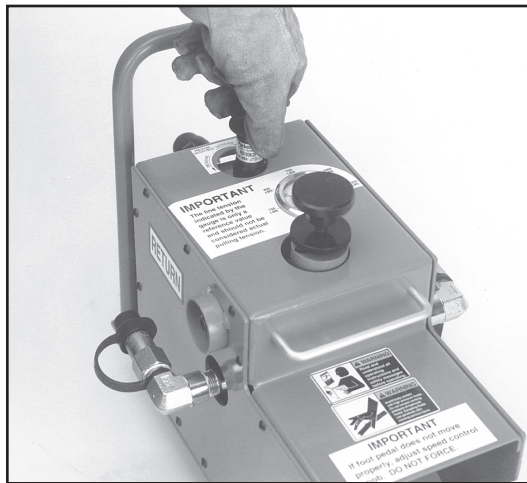

Figure 22. Pressure Relief Valve
4. Release the lock nut on the relief valve (figure 22). Turn the relief valve stem counterclockwise to adjust the valve down to zero pressure.
6. Release pressure to the puller. Turn the relief valve stem clockwise to increase the pressure setting (figure 22).